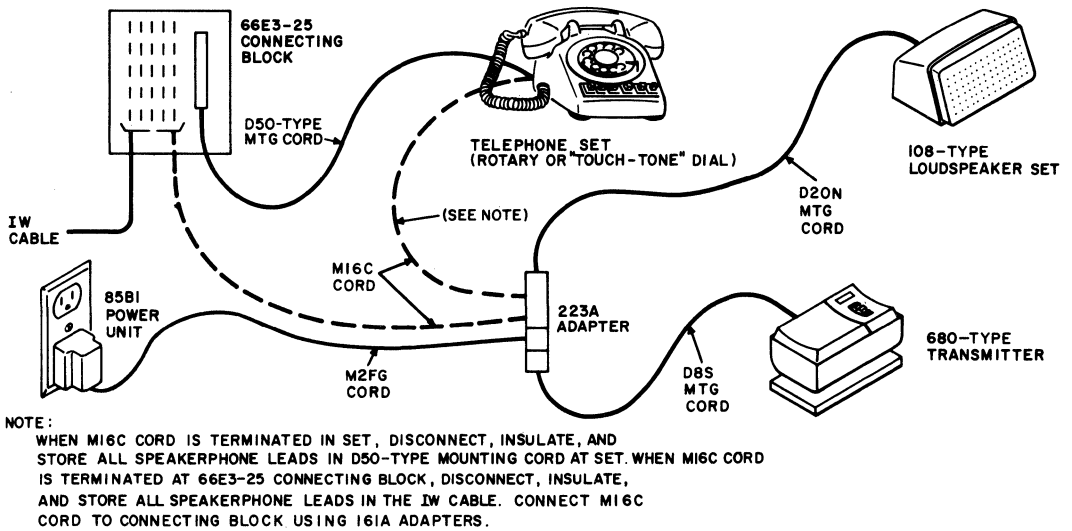

Fig. 1—Speakerphone Arrangement 566MD Key Telephone Set
**1.04** To provide a speakerphone at stations supplied by inside wiring cable, a 66E3-25 or equivalent connecting block and a 223A adapter (Fig. 1) is required.
**2.01** Cords from the loudspeaker set, transmitter and power unit are plugged into the adapter (Fig. 1). Adapter cover must be fastened securely to assure proper mating of connectors. The telephone set mounting cord is plugged into the 66E3-25 connecting block (Fig. 1). Access to the speakerphone leads is obtained through the M16C cord at the connecting block. At the 66E3-25 connecting block, 161A adapters must be used to connect the spade tips of the M16C cord. Install the adapter as outlined in Section 461-604-100.